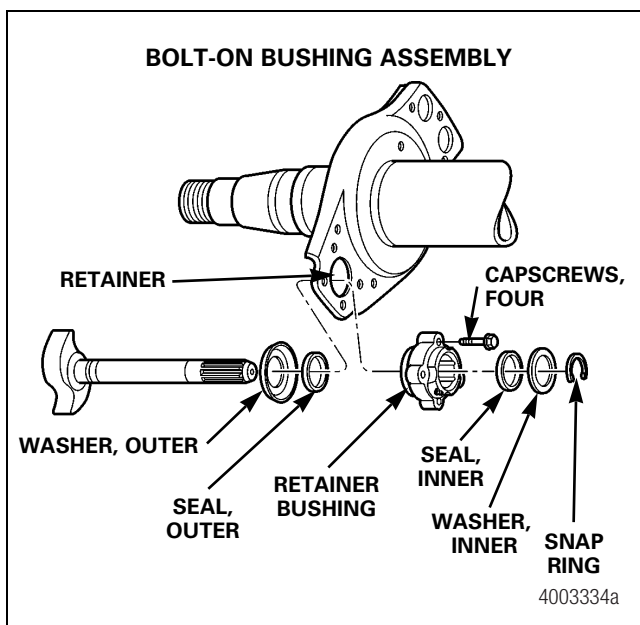
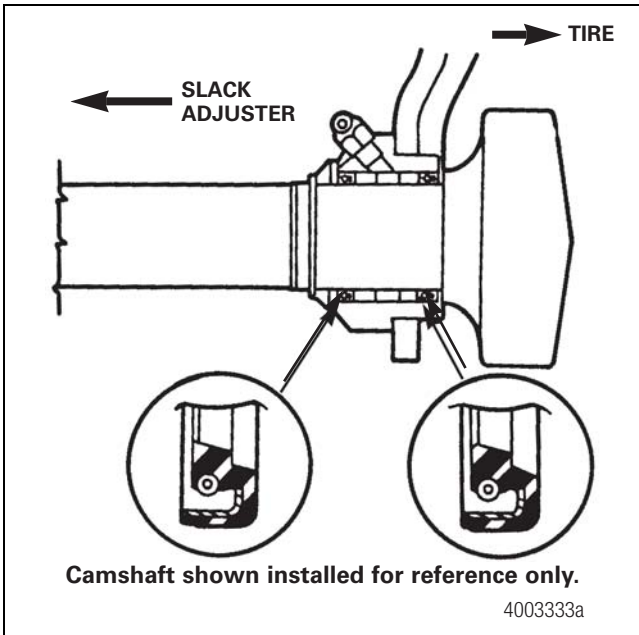

Figure 12.33
Figure 12.36
1. Remove the snap ring, camshaft, washers and seals. Figure 12.33.
2. Remove the four fasteners attaching the bolt-on bushing, then pry the bushing from the spider. Figure 12.33.
5. Replace all camshaft assembly parts as shown in Figure 12.33. Verify that the seals align in the correct direction. Figure 12.36.